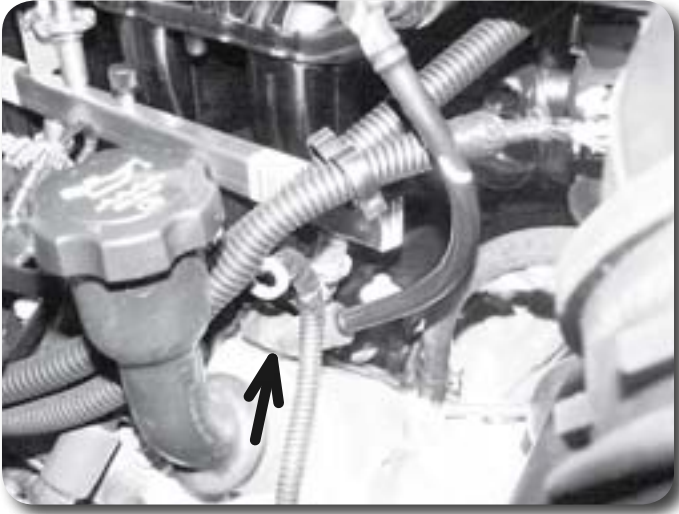

Figure 9
13. Disconnect the passenger's side valve cover breather hose from the valve cover **Figure 9**. The opposite end of the breather hose can remain connected to the air intake.